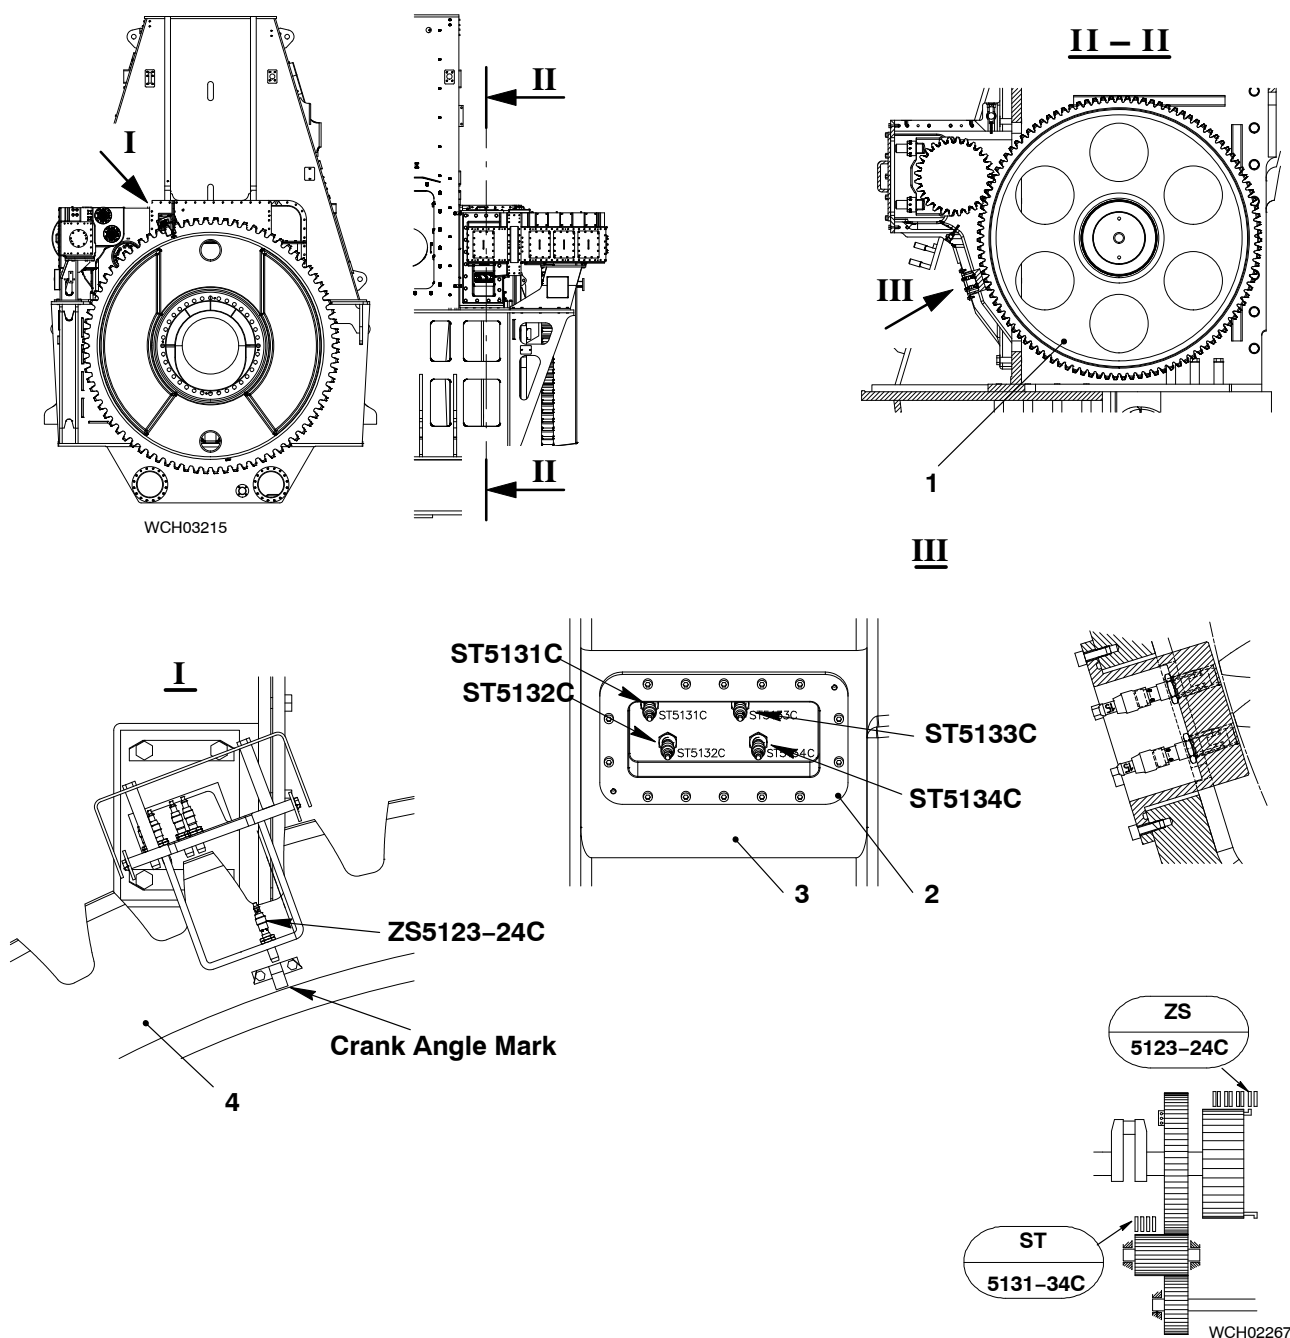

Fig. 1: Crank Angle Sensor Unit
The crank angle sensor (CAS) unit (Fig. 1) is installed on the supply unit drive at the driving end. The CAS has four proximity sensors (ST5131–34C). There are two crank angle systems (for redundancy) that monitor the teeth on the intermediate wheel (1). The holder (2) is installed with screws to the cover (3) on the drive column.